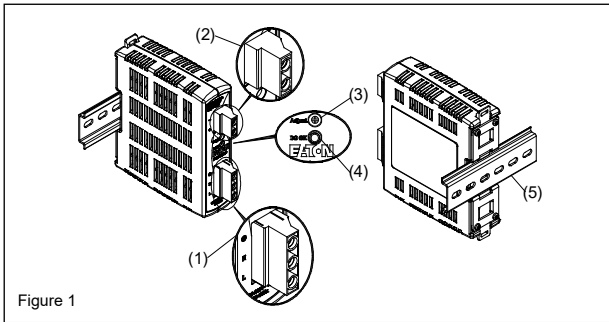
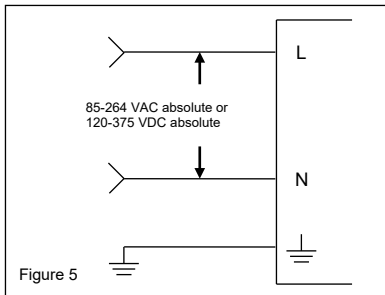

Figure 1
Figure 5
#### 2. Device description (Fig. 1)
#### 5.1. Input connection (Fig. 1, Fig. 5)
For AC input connections, use L, N and PE connections of input terminal connector (see Fig. 1 (1)) to establish the 100-240 VAC connection.
#### 5.2. Output connection (Fig. 1 (2))
Use the "+" and "-" screw connections to establish the 24 VDC connection. The output provides 24 VDC. The output voltage can be adjusted from 22 to 28 VDC on the potentiometer. The green LED DC OK displays correct function of the output (Fig. 1 (4)). The device has a short circuit and overload protection and an overvoltage protection limited to 35 VDC.